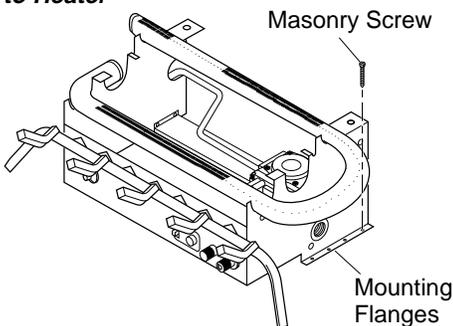

Figure 12 - Attaching Base Assembly to Fireplace Floor
4. Mark screw locations through holes in mounting flanges (see Figure 12, page 11). If installing in a brick-bottom fireplace, mark screw locations in mortar joint of bricks.
- Attach base assembly to fireplace floor using two masonry screws (in hardware package) (see Figure 12).